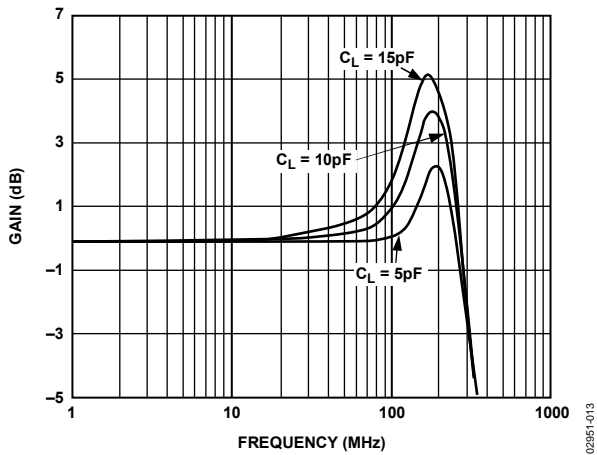

Figure 13. Small Signal Frequency Response for Various  $C_L$ ,  $V_{OUT} = 500\text{ mV p-p}$ ,  $V_S = 5\text{ V}$ ,  $G = +1$
- Put a small value resistor in series with the output to isolate the load capacitor from the output stage of the amplifier, see Figure 12, Figure 13, Figure 27, and Figure 28.